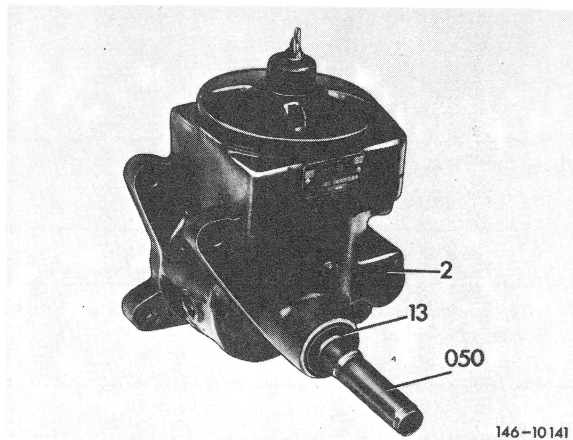

Fig. 1
- 3 Screw guide sleeve (050) to drive shaft (Fig. 1).
8 Slip radial sealing ring (13) on guide sleeve (050) of drive shaft and knock into housing with respective punch (053) (Fig. 1 and 4).